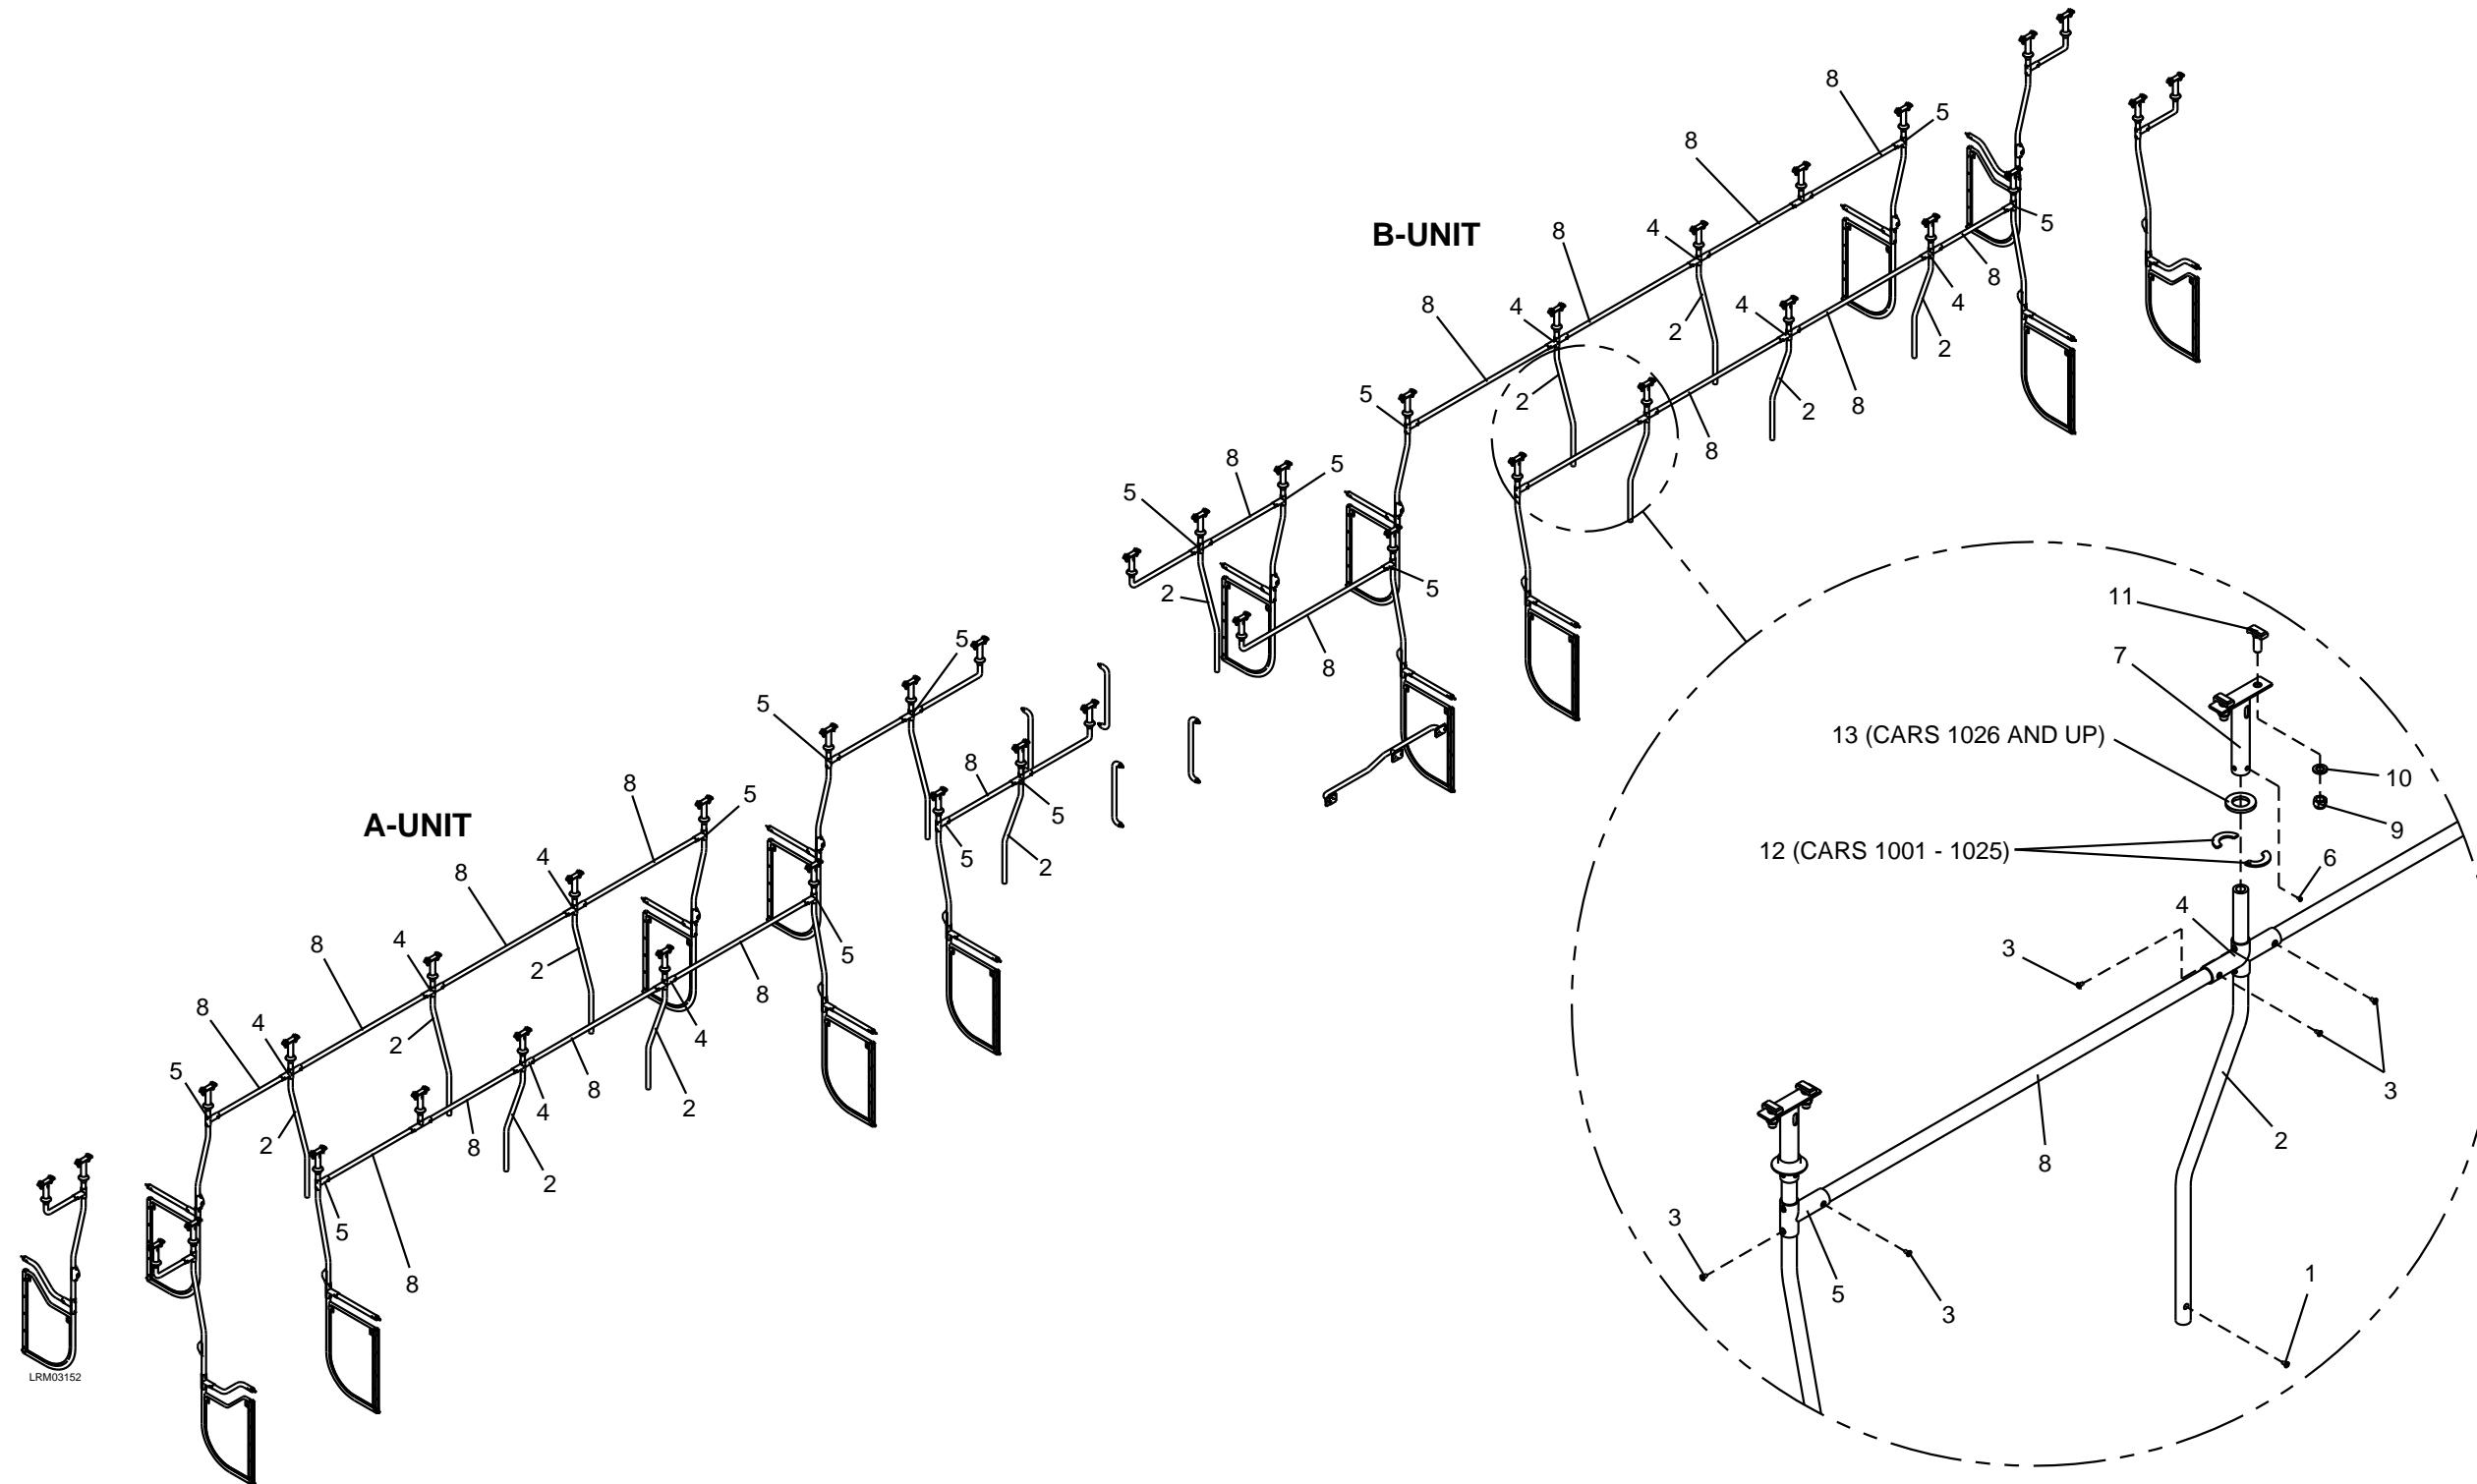

Figure 7-79: Stanchions and Grab Rails
1. Remove the M6 x 35 screw (1) from the bottom of Stanchion (2). See Figure 7-79.
2. Remove the ten M6 x 12 screws (3) from the cross fitting (4) and the tee fitting (5).
3. Remove the M4 x 8 screw (6) from the stanchion support (7).
4. Remove the Stanchion (2), cross fitting (4), Grab Rail (8) and tee fitting (5).
5. Remove the two M16 nuts (9) and M16 plain washers (10) from the stanchion support (7).